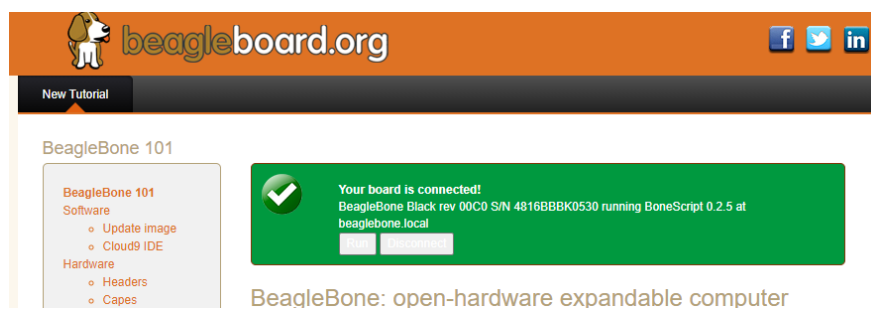

Figure 4 – Move on the board to see if it is linked
- When step 1 and step 2 are terminated push the link <http://192.168.7.2> to check if the BBB is correctly connected to the PC (see Figure 4).